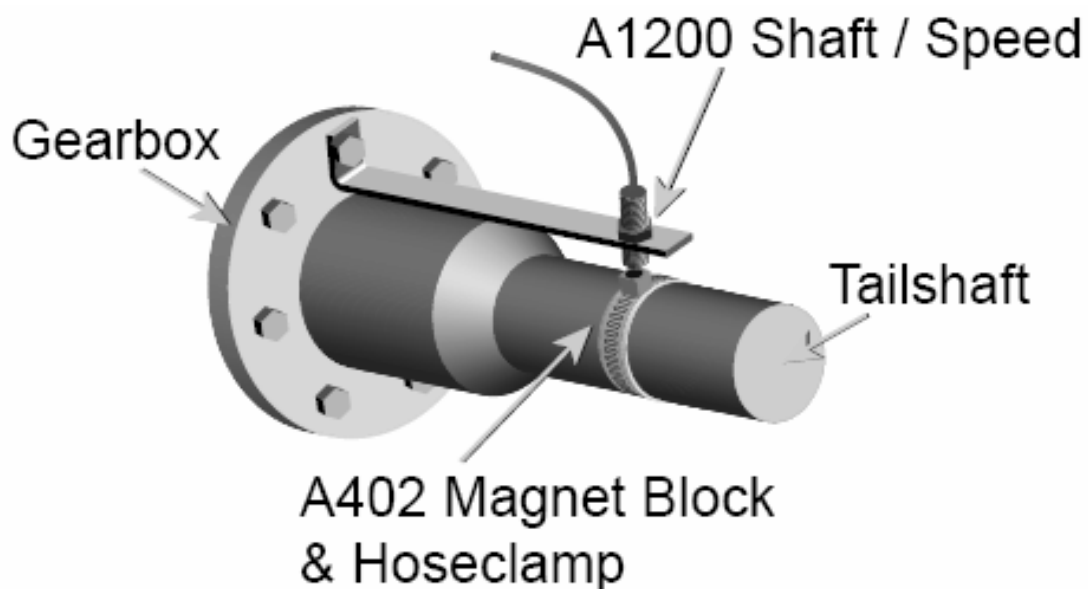

Figure 9 : Shaft/Sensor Sensor installation a tail shaft
1. On a tray mounted sprayer the Shaft/Speed Sensor Kit can be used to read from the vehicle tail-shaft. Refer to Figure 9. Using the Hose Clamp or other suitable means securely mount the Magnet Block on the flange between the transmission housing and the tail shaft. Note: Do not attach the Magnet Block directly to the tail shaft as its position changes through its rotation. The Wheel Stud Magnets are not used in this case.